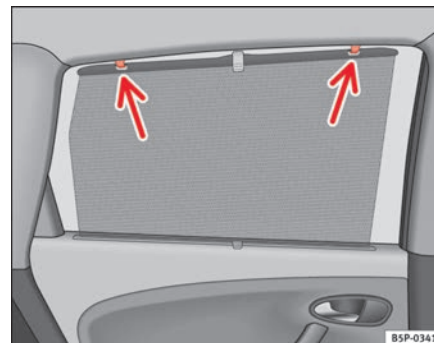

Fig. 85 Rear door blinds ►
- Pull out the blind and hook it into the hooks at the top of the door frame ⇒ page 120, fig. 85. ■